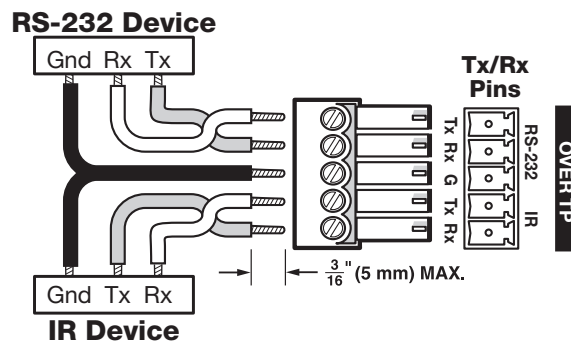

Figure 24. Wiring the RS-232 and IR Connectors
Figure 24 shows how to wire the OVER TP RS-232 and IR connectors. For these connectors, the Ground (G) pin is shared by both signal types and both signal types can be active at the same time.